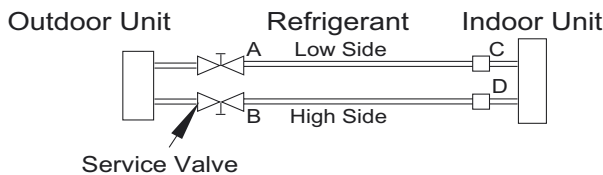

Fig. 17 — Service Valve
1. Completely tighten flare nuts A, B, C, D. Connect the manifold gage charge hose to a charge port of the low side service valve (see Fig. 17).